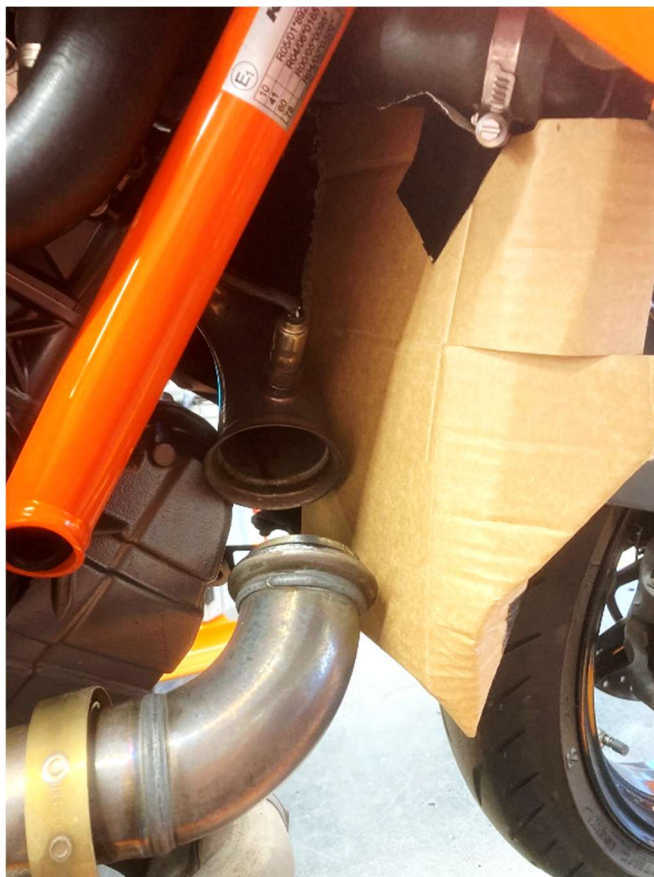

Fig. 3 – Protecting the radiator
2. Protect the cooler against damage with cardboard, see Fig. 3.